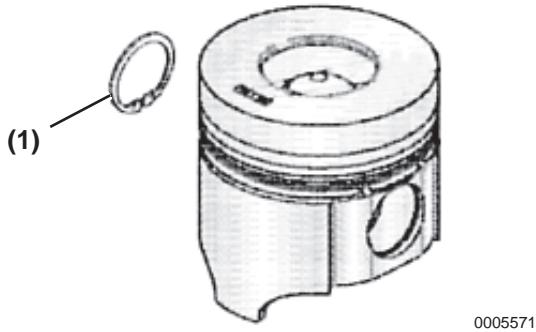

Figure 5-132
1. Install a new snap ring into one side of the piston pin snap ring grooves (Figure 5-132, (1)).